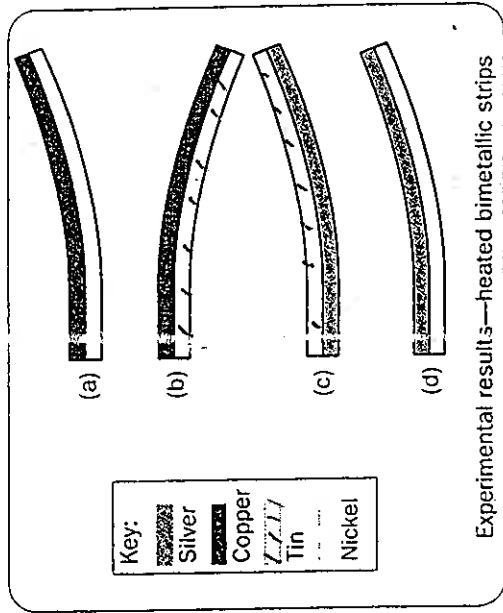

Figure 10.45 Bimetallic strip experiment
- Figure 10.45 shows various bimetallic strips made from copper, tin, nickel and silver. The bimetallic strips are heated in beakers of hot water. The direction in which they bend is shown. Use this data to rank these four metals in order from greatest expansion to least expansion.